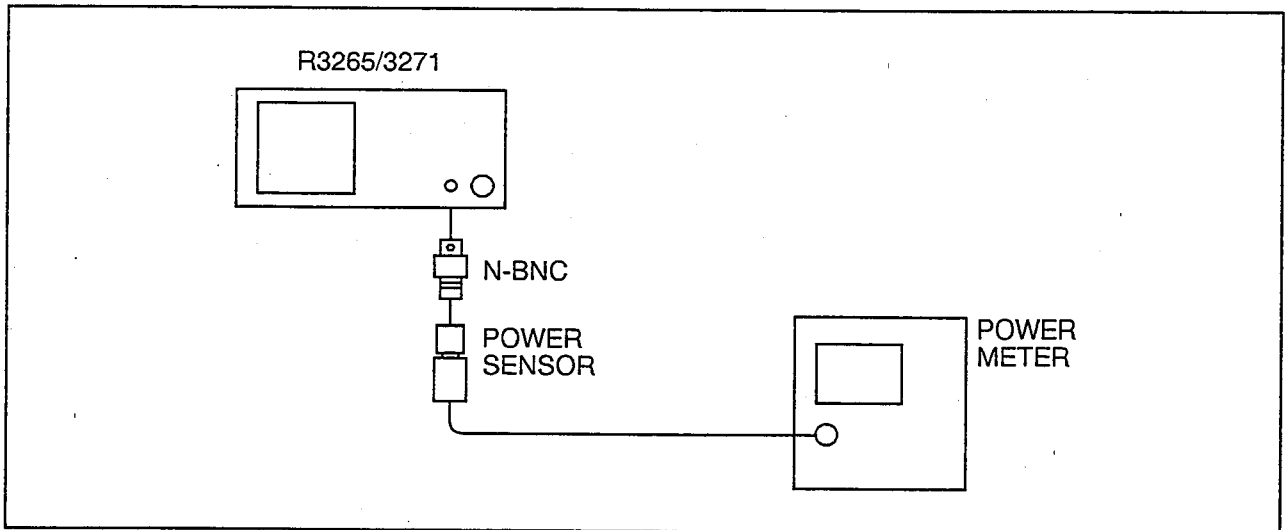

Figure 4-19 Calibration Amplitude Accuracy Test Setup
- (1) Connect the equipment as shown in Figure 4-19.
- (2) Press the power sensor zero of the power meter and calibrate the power sensor. Enter the power sensor's 25 MHz calibration factor into the power meter.
- (3) Connect the power sensor via an N(f) – BNC(m) adapter directly to the CALOUT connector. Read the power meter display. The power level should be within the following limits ($\pm 0.3 \text{ dB}$):